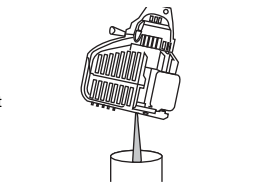

Fig. 27
- Pour the oil out of the oil fill hole into a container by tipping the unit to a vertical position (Fig. 27). Allow ample time for complete drainage.